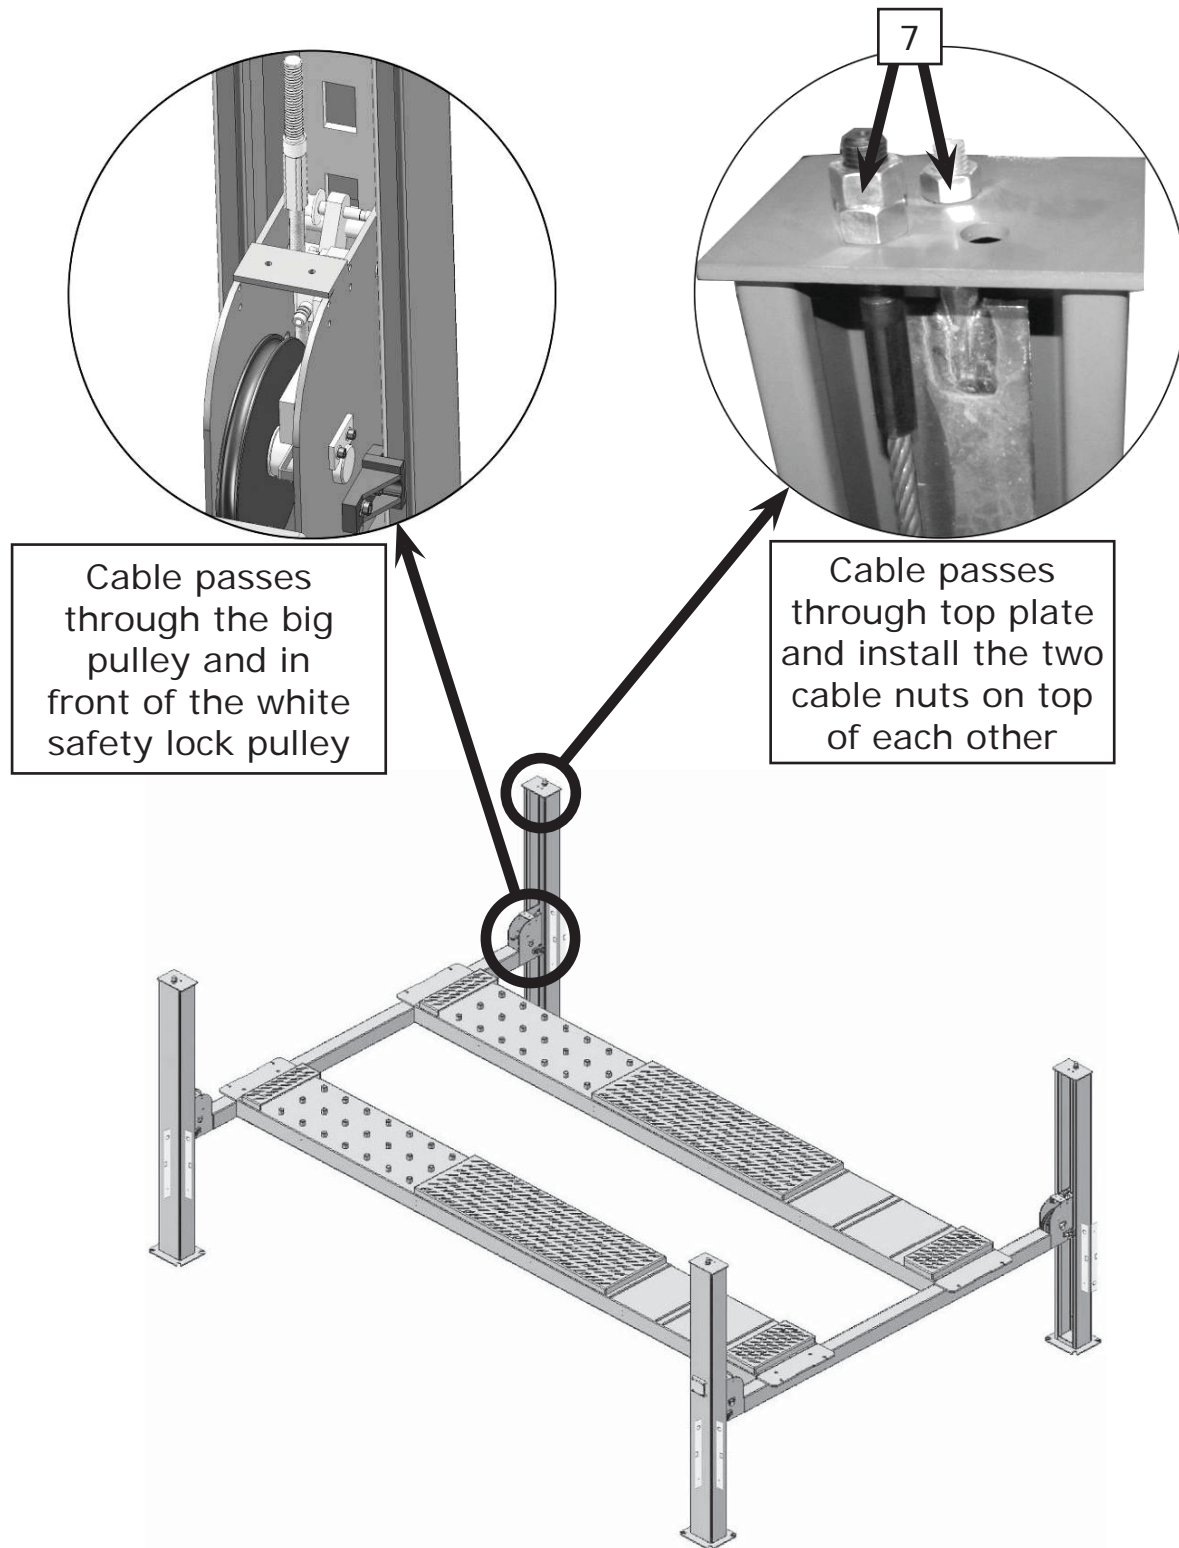

Fig. 23
2. The cable passes through Cross Beam and top plate on the column. Install the cable nuts (**See Fig. 23**).